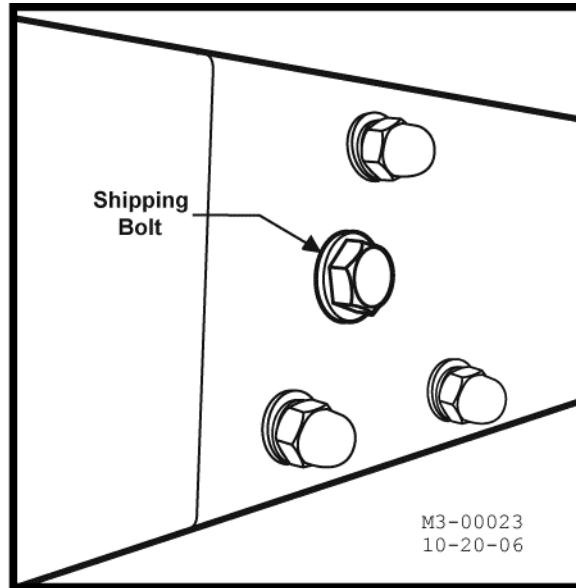

Figure 2-5: Remove Shipping Bolt
2. Layout the head unit on the floor and remove the shipping bolts from the side/junction post. See Figure 2-5.